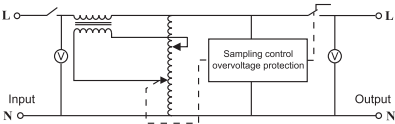

Figure 4 Single-phase 15kVA~30kVA Three-phase 45kVA~60kVA
2.4.3 The electric schematic diagram of single-phase 15kVA–30kVA compensation line is shown in Figure 4.
Note 2: Refer to Figure 4 for three-phase 45kVA~60kVA compensation type circuit.